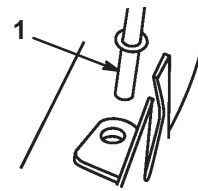

**Figure 35**
6. Rotate the chute counterclockwise and push it down into the deck opening (Fig. 35).
5. Place the front corner of the mulch plate baffle into the deck opening (Fig. 35).
6. Rotate the mulch plate counterclockwise and push it down into the deck opening (Fig. 35).